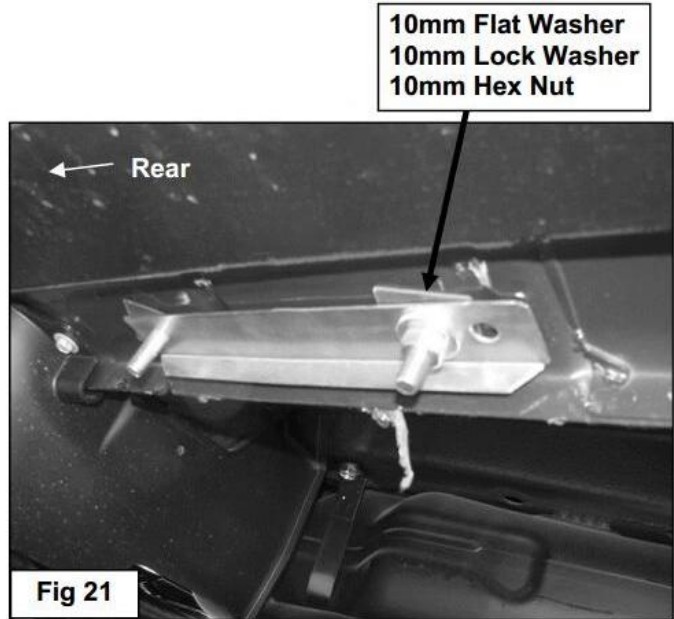

Fig 21
NOTE: Attach the Lock Plate to the front Bolt Plate only with (1) 10mm Flat Washer, (1) 10mm Lock Washer and (1) 10mm Hex Nut, **(Figure 21)**. Tighten the Hex Nut at this time.